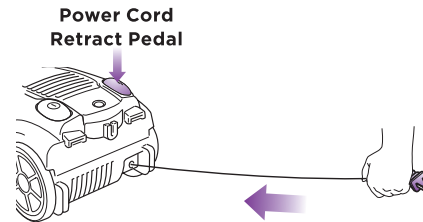

Fig. 11
- 1 Unplug the power cord from the wall and hold the cord firmly in your hand while pressing on the power cord retract pedal to reel in the power cord. Slowly feed the power cord back in. If the cord does not fully retract, pull it out an arm's length and try feeding it in again. (Fig. 11)